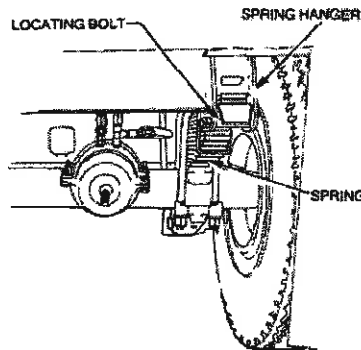

Figure 36 Spring Locating Bolt
- h. Remove the spring locating bolt (Figure 36).